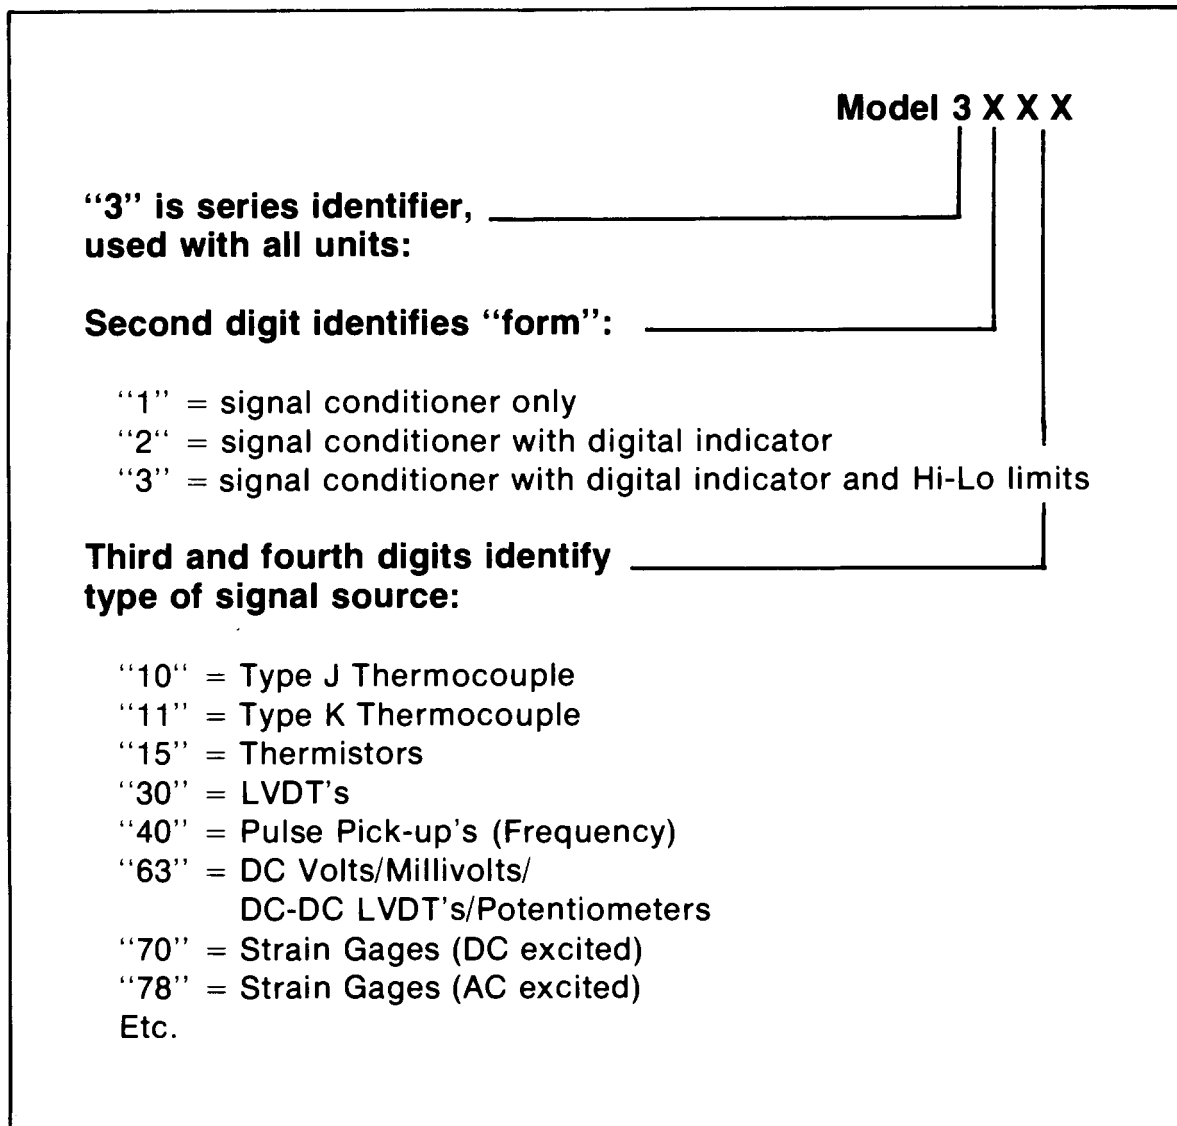

Figure 1. 3000 Series Instrument with Hi-Lo Limits
*Coarse* and *Fine* setting potentiometers are provided for each limit. Individual *Push-to-Set* buttons cause the limit value to be displayed by the Digital Indicator in the proper engineering units. A typical *3300 Instrument* is shown in Figure 1. The specifications for the *Limit* section are given in Table 2.